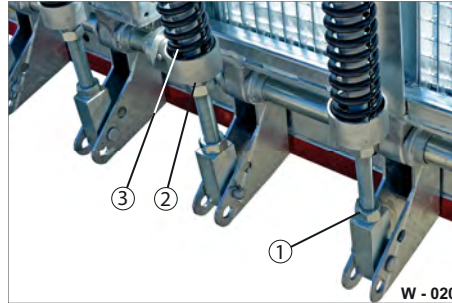

Fig. 22 Spring, factory setting
- ▶ Release the lock nuts (SW 56) (Fig. 22/2).
- ▶ Screw the adjusting screw (Fig. 22/1) anti-clockwise.